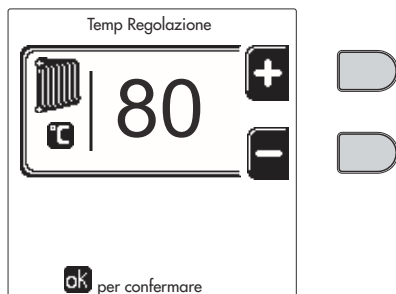
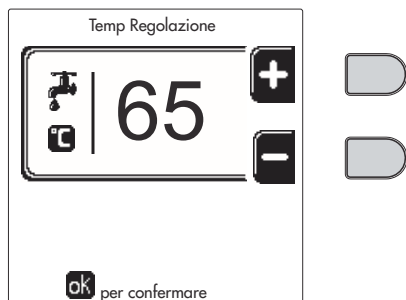

fig. 12
fig. 14
- **ON**. In case of a Heating/DHW demand, the boiler works at the set Heating/DHW (fig. 12/fig. 14) Adjustment Temperature.
- In case of a Heating/DHW demand, the boiler works at the Reduced Adjustment Temperature. The Reduced temperature is obtained by subtracting the Reduction Adjustment Temperature value (fig. 13/fig. 15) from the set Heating/DHW Adjustment Temperature (fig. 12/fig. 14).